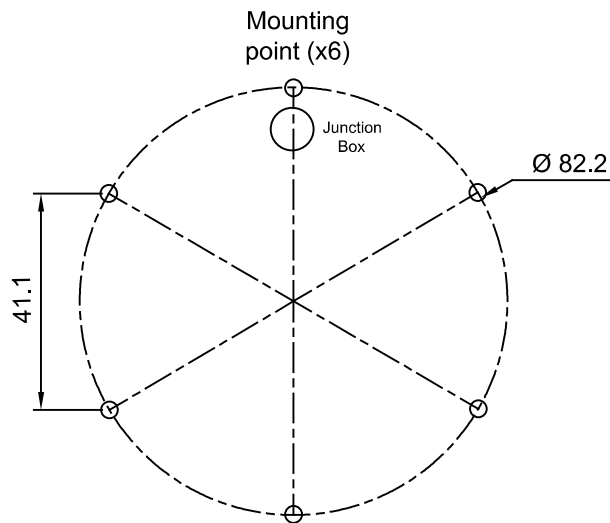

Fig. 1
1. Mount the couplers to the ceiling using appropriate fasteners (not included) according to the structure of the ceiling (Fig. 1)